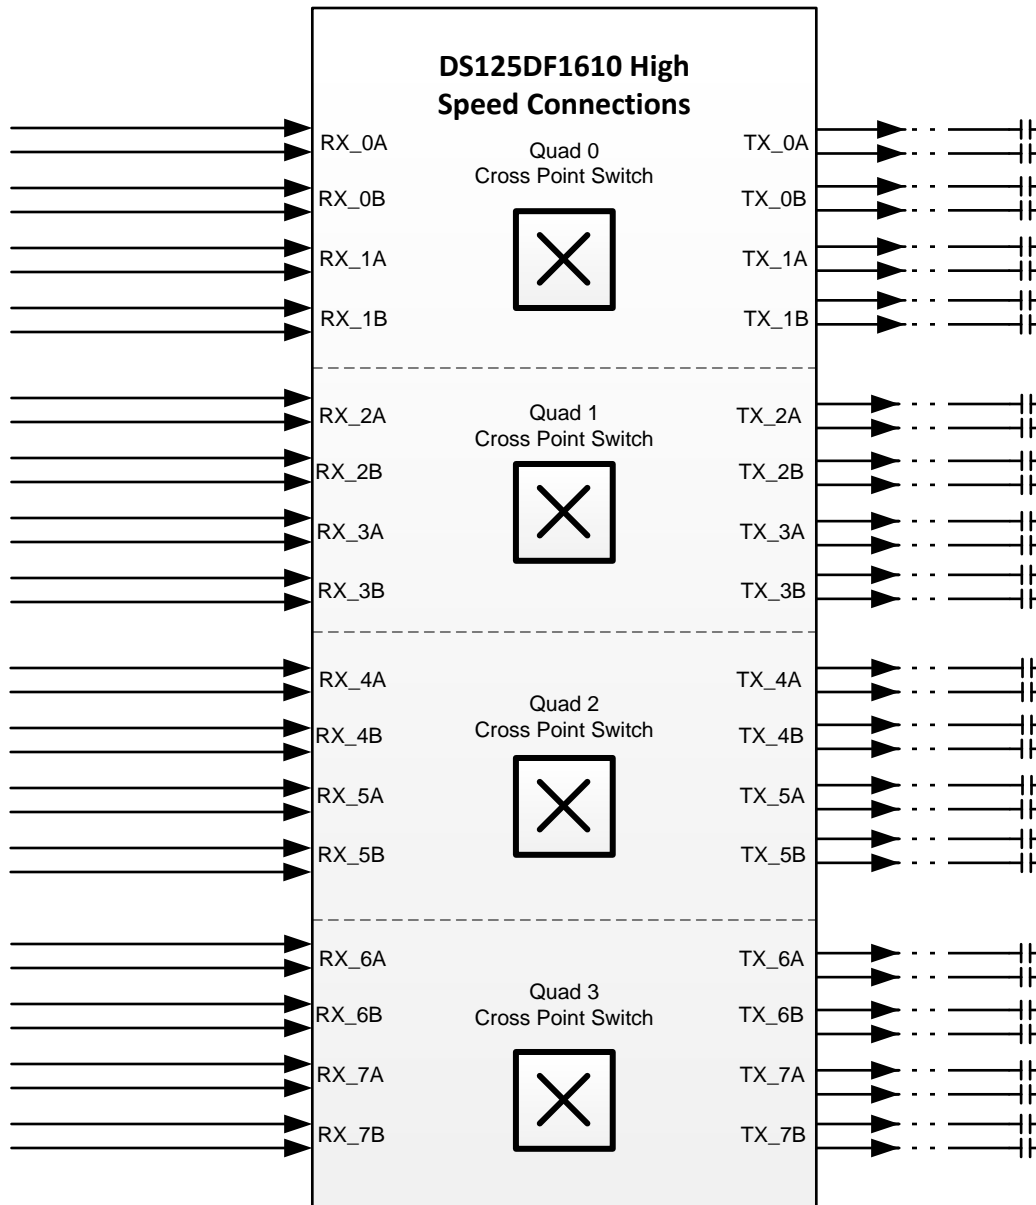

Figure 7. Typical Connection Diagram: High Speed Signals
Figure 6 and Figure 7 show a typical application of the DS125DF1610. In these diagrams, the DS125DF1610 is configured for SMBus slave mode programming. Power is supplied to the device through a single 2.5 V plane. The power supply filtering shown in these diagrams may need to be adjusted to accommodate additional system power noise. The SMBus and LVCMOS signals in this example use 2.5 V logic. A differential reference clock for the digital block is applied to the device through 1  $\mu\text{F}$  AC-coupling capacitors. In this example, the high speed signals are connected to the device in groups of four to allow for the system designer to make use of the 4x4 cross point switches. Note that since the device contains AC-coupling capacitors on the high speed receiver inputs, the signals can be directly connected to the device. The transmitter outputs of this device should connect to AC-coupling capacitors placed near the receive inputs of the receiving ASIC.
- Compare schematic against the typical connection diagrams in the datasheet, Figure 6 and Figure 7